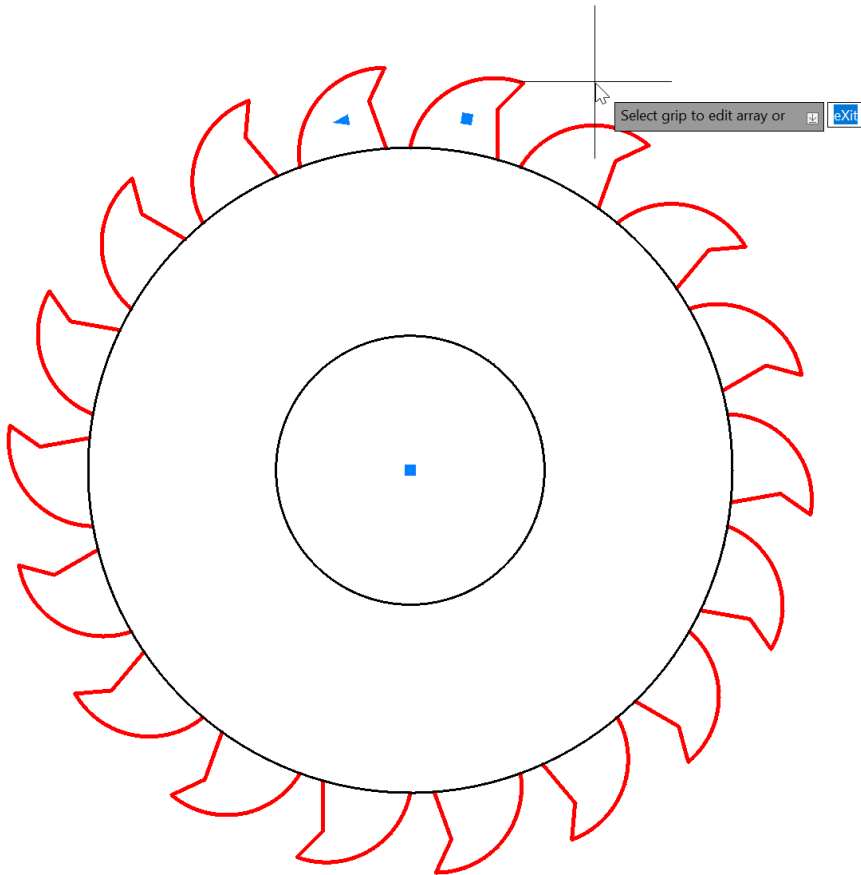

Figure 6.20: The sawblade with 18 saw teeth
9. You will see the number of saw teeth updated to 18 in the drawing, as displayed in *Figure 6.20*.